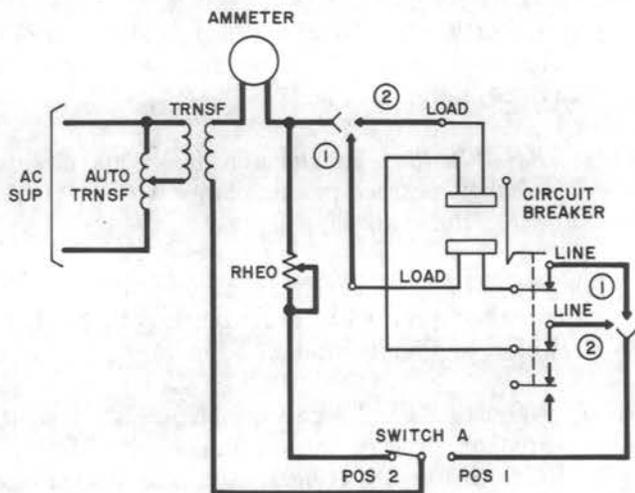

Fig. 20—Checking Circuit—AC Breakers—KS-15659 L2, L17B, KS-15813 L2, L4-L6, L8, KS-15815 L22-L24, L43, L45
- (k) **KS-15813:** To check a KS-15813 circuit breaker, proceed in accordance with Methods 1, 2, and 3 as applicable. Refer to Fig. 20, 21, 22, 26, 27, 28, 29, 30, 32, 33, 35, 36, 37, and 38. Check each pole separately as shown by options 1, 2, and 3.